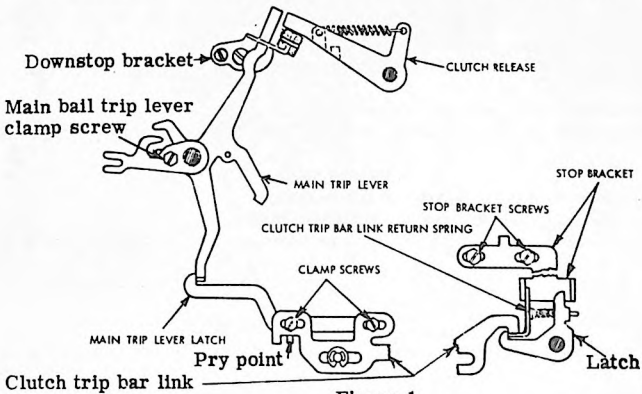

Figure 1
3.11 Main Trip Lever (Figure 1)
3.12 Perforator Clutch Release Trip (Figure 1)